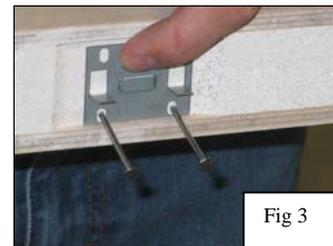

Fig 3
4. Position the rectangular half of the glazing clip, with the tabs down, being sure it is centered within the door thickness. Secure it using two of the 1-9/16" long 4d nails inserted through the holes below the tabs (Fig 3). Where nails are hand driven into blocking, pre-drilling with a 5/64" bit is required. **Caution:** These clips are directional; insure correct positioning of the clips before beginning to nail them into place. **Note:** Clips are required in all of the machined pockets.